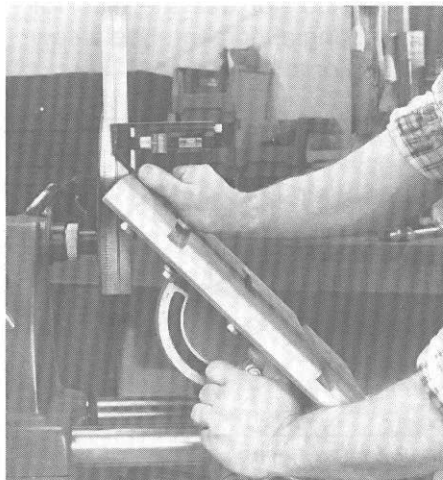

Figure 6. Checking the 45° right stop.
c. To check the **45° right stop**, mount the sanding disc and position the marked line horizontal. Then loosen the tilt lock and tilt the table past the 45° right setting. Depress the plunger and tilt the table back toward that angle until the stop hits the plunger. Tighten the tilt lock, then check the angle. (See Figure 6.) If the angle is not 45°, the stop needs adjusting.